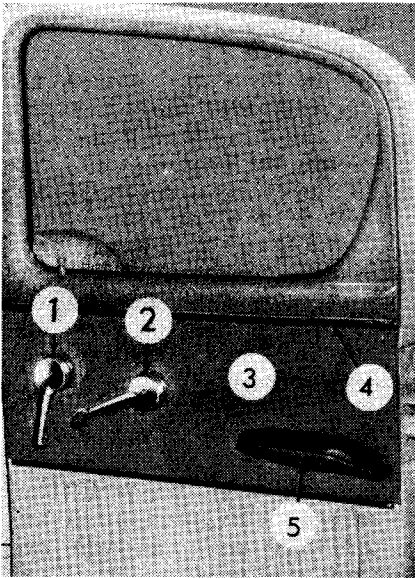
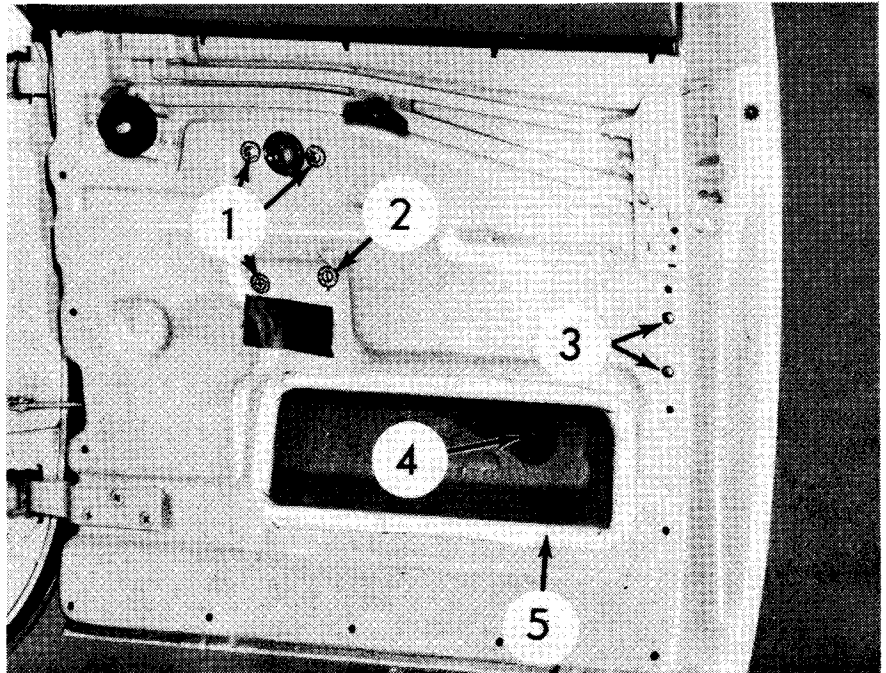
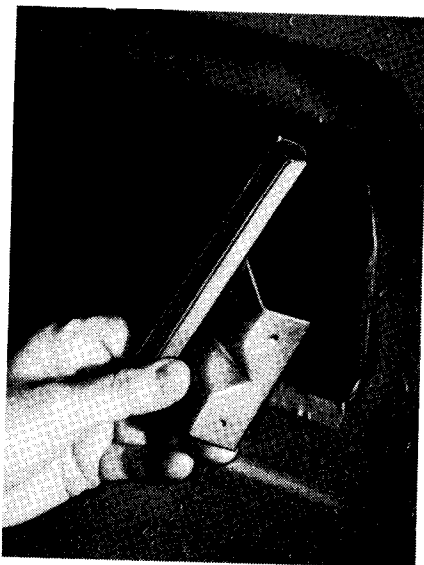

FIG. 1
FIG. 2
FIG. 4
1. Remove the door lock remote control handle (1, Fig. 1), window regulator handle (2), and arm rest (5).
2. Pry the fasteners from the holes in the door inner panel and remove the trim panel (3) by sliding it down from beneath the trim strip (4). Do not remove the trim strip.
3. Tape the four edges of the large inspection hole (5, Fig. 2). This is to protect you from sharp, irregular, unfinished parts of the recessed flanges.
8. Remove the rubber gasket from the regulator shaft. Remove the four window regulator screws and lock washers. The three Phillips head screws (1, Fig. 2) are the same length. The fourth screw (2) is a longer, slotted-head screw. It also acts as the window stop screw, keeping the glass approximately 3 1/2" above the lower edge of the opening. In early production, the stop screw was a #12 screw. It should be replaced with a 1/4" screw as outlined under installation.
10. If the car is equipped with a window run extension, remove the screws (3, Fig. 2) and remove the window run extension from inside the door (see Fig. 4).
5. put the regulator in position and install the Phillips head screws (1, Fig. 2). If the stop screw (2) is a #12 screw, drill and tap the stop screw hole in the regulator for a 1/4 - 20 thread and install a 1/4 - 20 x 1/2 screw and star lock washer. Do not attempt to adjust this window for